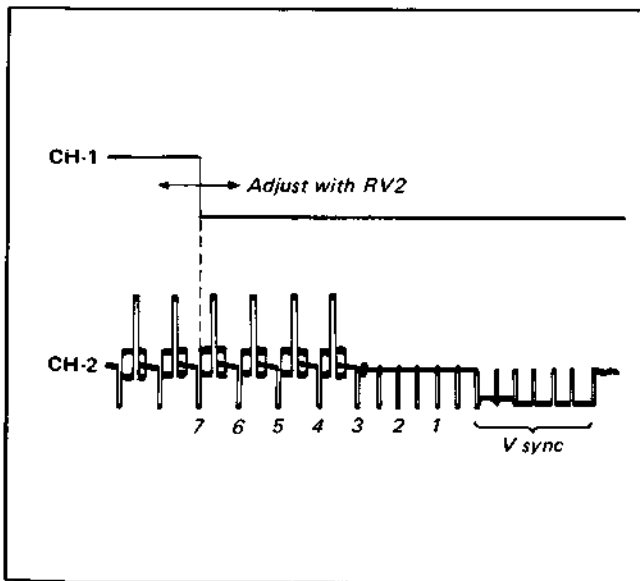

Fig. 4-3-4. RF switching position adjustment (1)
- (5) Adjust RV2 on the AS-6 board so that the phase difference between the falling section of the CH-1 waveform and the vertical sync signal of the CH-2 video signal are  $7 H \pm 2 H$ . (See Fig. 4-3-4.)